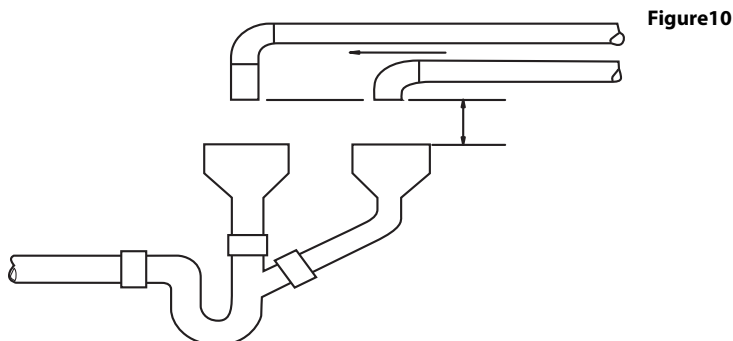

Figure 10
- Run the drain lines to an approved air gap and drain (see Figure 10).